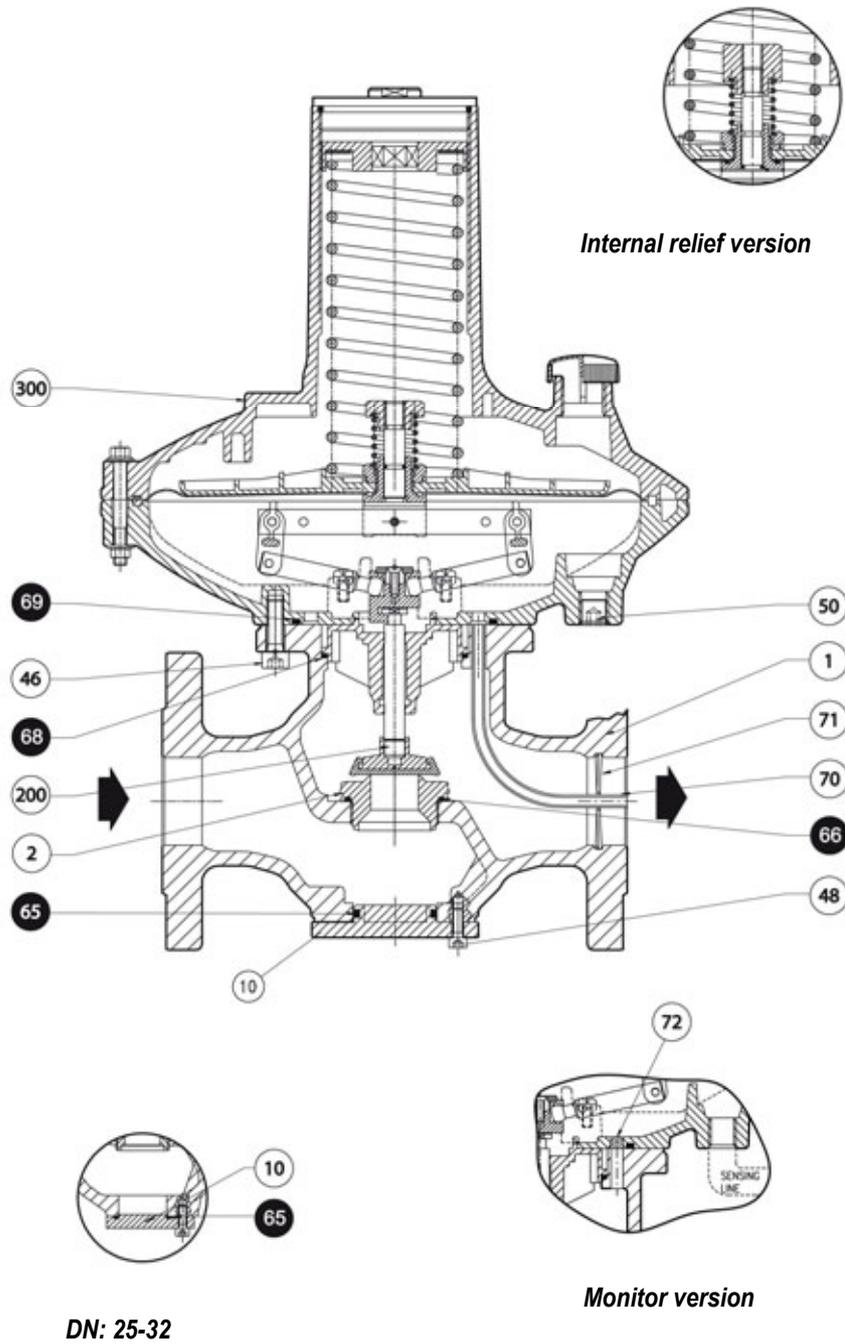

fig. 18
6.1 Tab. 7 DIVAL 700 REGULATOR (fig. 18, 19, 20, 21 e 22)